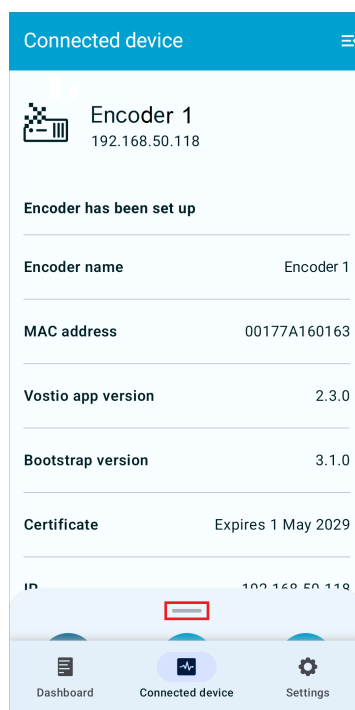

Figure 23
2. Figure 23: When the setup process is finished, a **Connected device** screen with encoder information will be displayed. Drag the handle upwards to display an action menu.
View version: See Figure 23 above.
- View versions of Linux firmware and encoder apps (the app versions can also be viewed in Vostio Service Tool; see Figure 23)